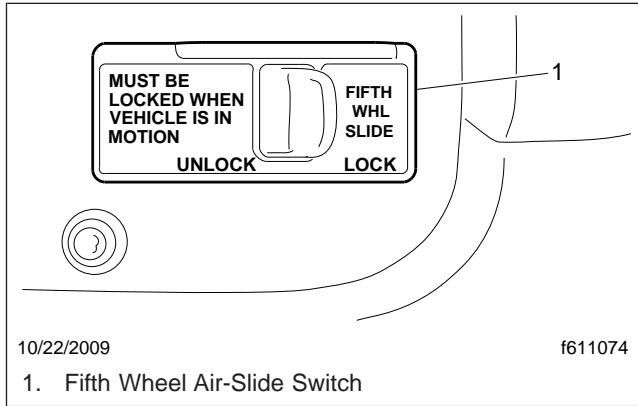
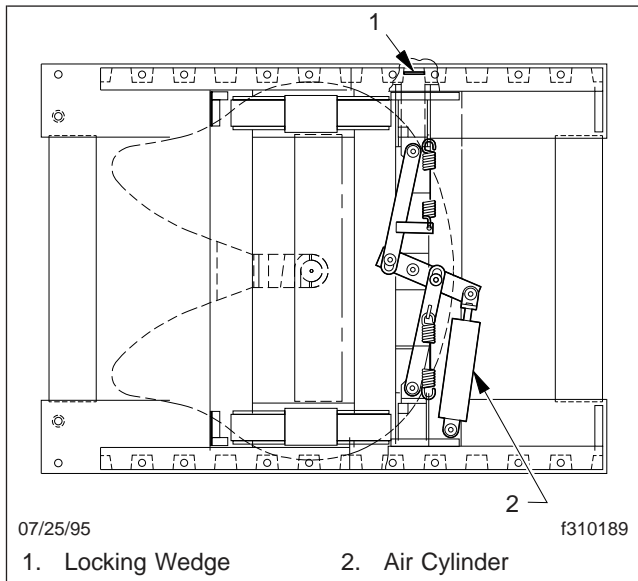

Fig. 18.14, Air-Slide Switch
Fig. 18.15, Air-Operated Sliding Fifth Wheel (Fontaine shown)
The slide feature may be operated with an air switch mounted in the dash, that operates an air cylinder that locks and unlocks the slide. See Fig. 18.14.
1. Set the air-slide switch (Fig. 18.14) to UNLOCK. Ensure the locking plungers have released. See Fig. 18.15.